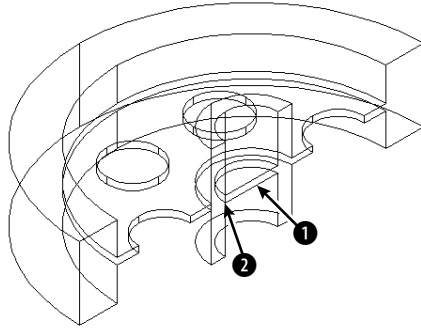

Figure 24-23: The solid after slicing and deleting one-half of it.
4. As mentioned earlier, the slicing reveals an error — the disk cuts through the central tube, as shown in Figure 24-23. To fix the error, choose Zoom Realtime from the Standard toolbar and zoom in so that the model takes up the entire screen.
5. Start the CIRCLE command. At the Specify center point for circle or [3P/2P/Ttr (tan tan radius)]: prompt, pick the midpoint at ❶ in Figure 24-23. At the Specify radius of circle or [Diameter]: prompt, pick the endpoint at ❷.